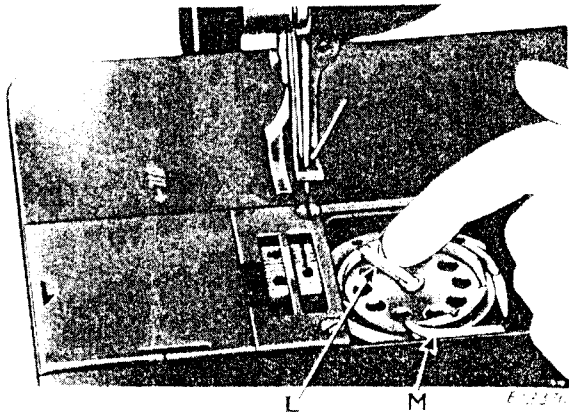
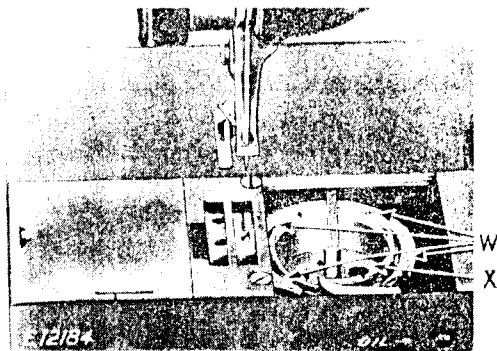
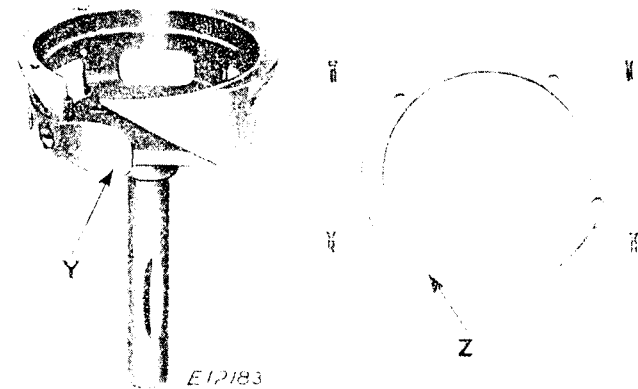

Fig. 7. Removing the Bobbin
Fig. 19. Removing Bobbin Case
Fig. 20. Sewing Hook Removed from Machine
Draw back the slide plate in the bed of the machine and turn the balance wheel until the bobbin case opener (M, Fig. 7) moves clear of the bobbin. With the forefinger or a screwdriver, raise the latch (L) to a vertical position and lift out the bobbin.
The needle guard (Y, Fig. 20), which is attached to the side of the sewing hook, should be sprung until it prevents the needle from striking the hook in case the needle is deflected towards the hook.
Remove the bobbin case opener (M, Fig. 7); remove the four hook gib screws (W, Fig. 19) from the sewing hook, lift off the hook gib (Z, Fig. 20) and remove the bobbin case (X, Fig. 19).